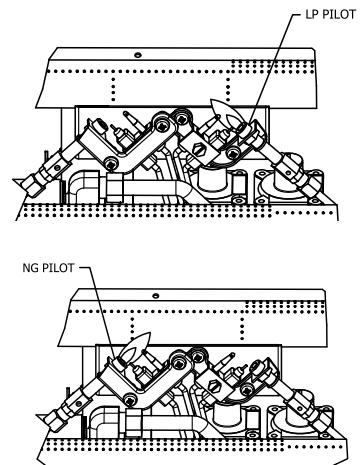
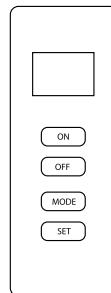

Fig. 27 - Pilot
Fig. 28 - Remote
6. With control knob depressed, push down on the ignitor button until the pilot lights. The pilot's location is behind log #3 near the center of the burner. (See Fig. 27).
7. Keep control knob depressed for (30) seconds after pilot lights. Release control knob.
- If pilot goes out repeat steps 3 through 7. Wait (1) minute before attempting to light pilot again. If after several tries the pilot still goes out, turn the gas control knob clockwise ↘ to the "OFF" position and call a qualified service technician.
9. To use the included thermostatic remote control, set receiver switch to the "REMOTE" position (See Fig. 28). Press the ON button to turn on the remote to ignite the main burner. Refer to the remote control instruction manual on the next page for "MODE" and "SET" functions.